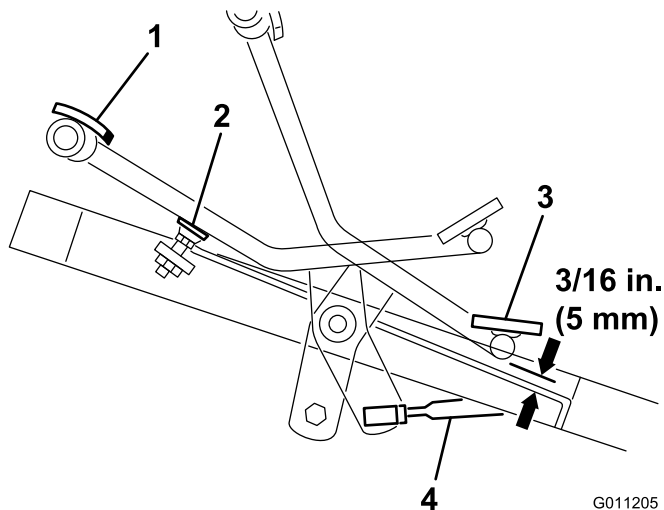

Figure 44
1. Press the traction pedal fully forward until the No. 5 section valve spool is completely pulled out. The pedal should contact the pedal stop (Figure 44).
2. Check the distance between the bottom of the pedal and footrest as shown in Figure 44. The distance should be approximately 3/16 inch (5 mm). If the distance is greater or less than 3/16 inch (5 mm), an adjustment to the traction control rod is required. Proceed as follows:
- A. Remove the jam nut and ball joint securing the control rod (Figure 44) to the traction shaft pivot.